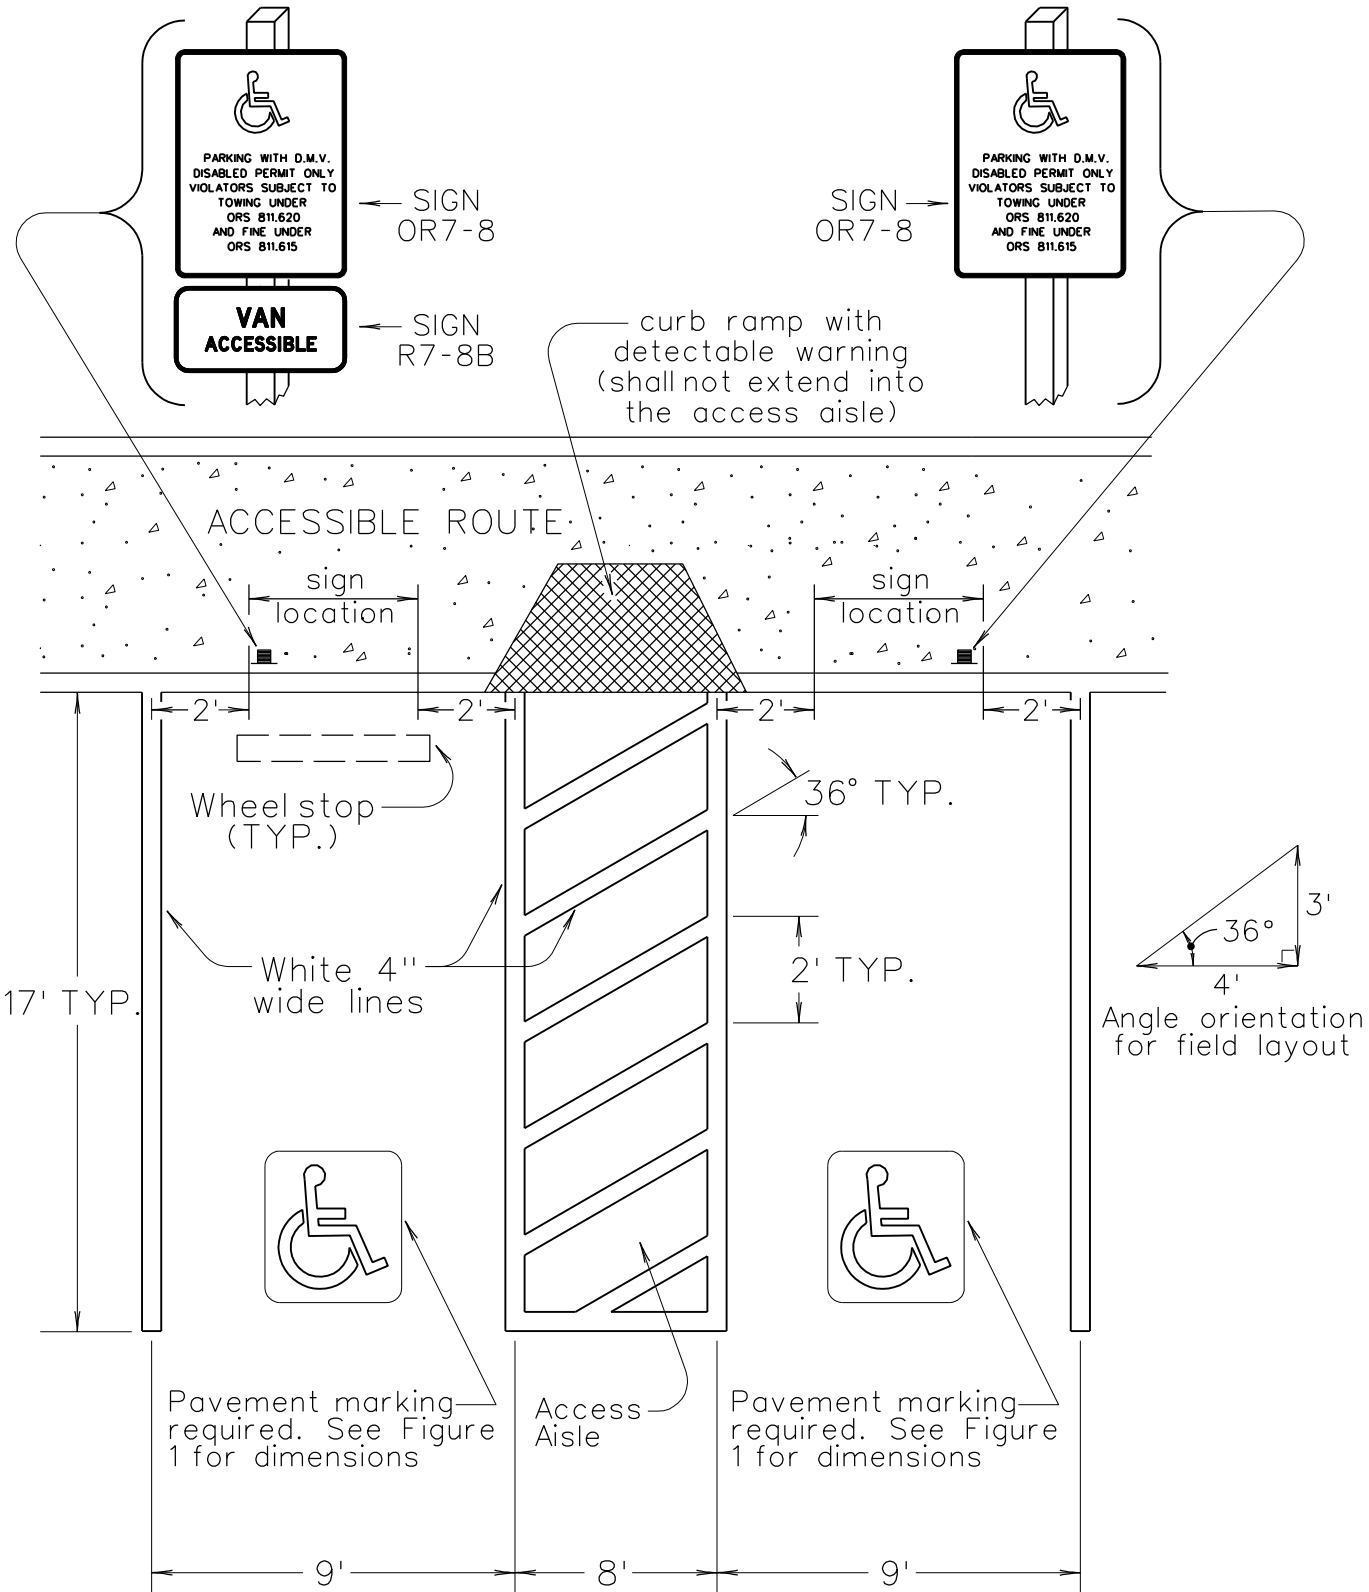

Figure 3
- Each accessible space shall have the sign (OR7-8). Mount as shown in **Figure 3**.